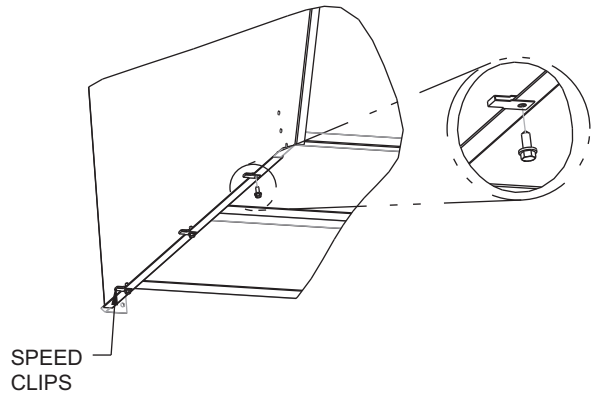

Fig. 34 — Bottom Filters Installed with Flange Pointing Down
11. Attach speed clips (provided) to hood side panels. Engagement section of clip faces up and towards the outside of the hood side panels. Attach mounting angles to hood with gasketed screws provided. See Fig. 34.